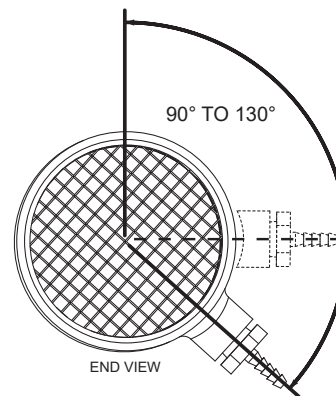

Figure 24. Intake Air Connection Hose Barb Angle Range for Proper Operation
Ensure that the hose barb installed in the Tee fitting **IS NOT** facing down towards the ground (180° - 6 o'clock position) before venting installation begins. The barb fitting must be angled between 90° and no more than 130° as shown in **Figure 24**. If the barb fitting is facing down, residual condensate that occasionally forms in the intake-air pipe can drain into the Blocked Intake Air switch through the attached sensing tube and damage the switch. This condition can also lead to Blocked Intake Air fault conditions and associated control system lock outs.
Inspect the angle of the tee fitting's 1/2 inch branch and hose barb while viewing from the end of the tee. See **Figure 24** (page 33). If the angle of the tee fitting 1/2 inch branch and hose barb is lower than shown, adjustment will be necessary. To adjust the intake-air tee fitting angle, follow the steps listed below.
4. Adjust the angle of the tee fitting so that the 1/2 inch branch and hose barb are at the proper angle as shown in **Figure 24** (page 31).